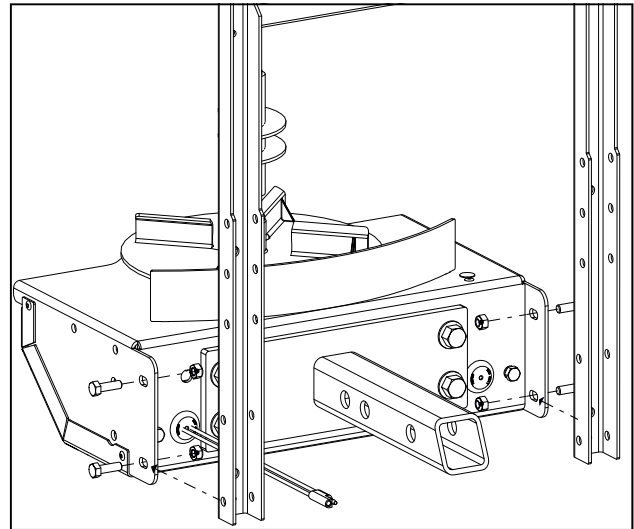

Fig 1.2
- 1.2 Mount the support frame to the drive assembly using the six supplied $5/16" \times 1"$ cap screws and the four supplied $5/16"$ locknuts. Tighten the fasteners according to the torque chart. As shown in figure 1.2.